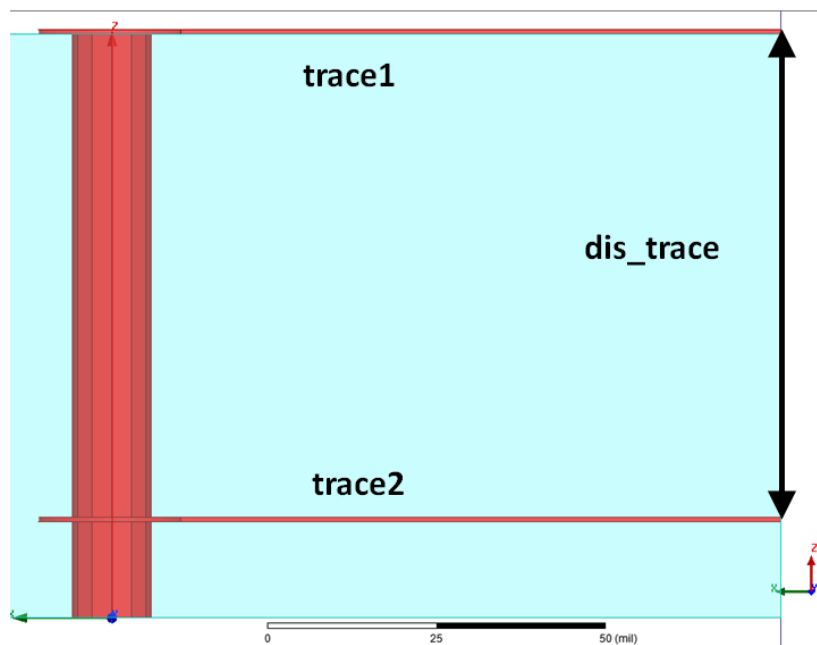

Figure 4 One trace immersed in air and the other one immersed in the dielectric layer.
3. The two pairs of traces are shown in Figure 4. The distance measured from the bottom surface of trace 1 to the top surface of trace 2 is **dis_trace** = 72.3 mil.